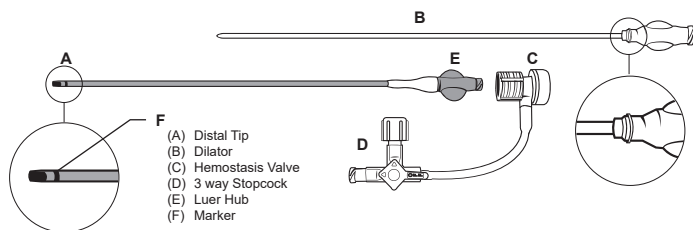
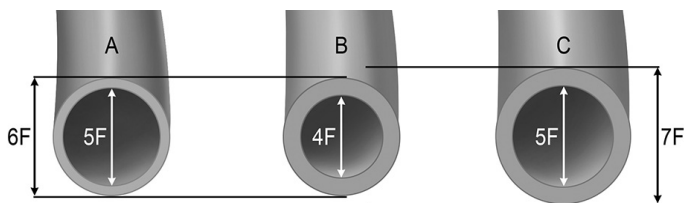

Figure 1
Figure 2: Thin-wall design (A) of 5F HALO ONE™ sheath in relation to a standard 4F (B) and 5F sheath (C)
The HALO ONE™ Thin-Walled Guiding Sheath consists of a thin-walled (up to 1F reduction in outer diameter compared to standard sheaths of equivalent French size) sheath made from braided single-lumen tubing, fitted with a female luer hub at the proximal end and a formed atraumatic distal tip (A) (Figure 1). The thin-wall design reduces the thickness of the sheath wall to help facilitate intravascular access from access sites including but not limited to radial, femoral, popliteal, tibial, and pedal. (Figure 2).